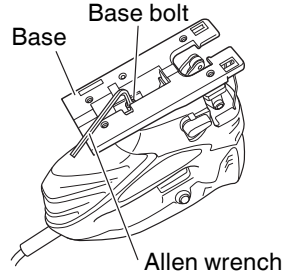

Fig. 8
- (1) Loosen the base bolt allen wrench attached on base. (Fig. 8)
NOTE: To ensure accurate cutting when using the Guide (Fig. 8), always set the orbital position to "0".
- (1) Loosen the base bolt by allen wrench attached on base and move the base fully forward. (Fig. 8, 9)